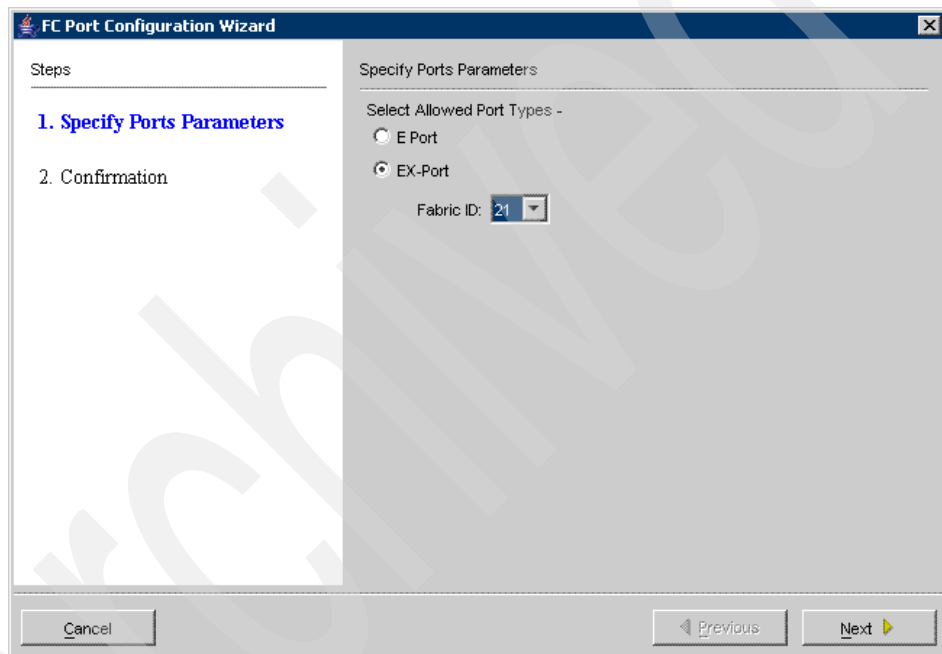

Figure 6-92 VEX-Port Configuration
1. Figure 6-92 shows the FC Port Configuration Wizard, launched for virtual port 24 on the SAN18B-R. We set the port type to **EX-Port** and set the correct Fabric ID.